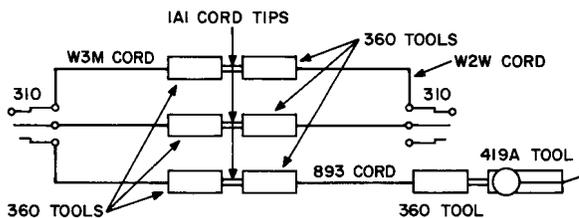

Fig. 2—
**2.14** W3M cord, equipped with a 310 plug and three 360 tools (3W4B cord). A W2W cord, 6 feet long, equipped with a 310 plug and two 360 tools (2W17A cord). One 893 cord, 6 feet long, with a 360 tool at each end (1W13B cord). One 419A tool and three 141 cord tips. Connect as shown in Fig. 2 (for connecting test set to A relay and commutator segment of trunk finder when the test jack is not located on trunk finder).